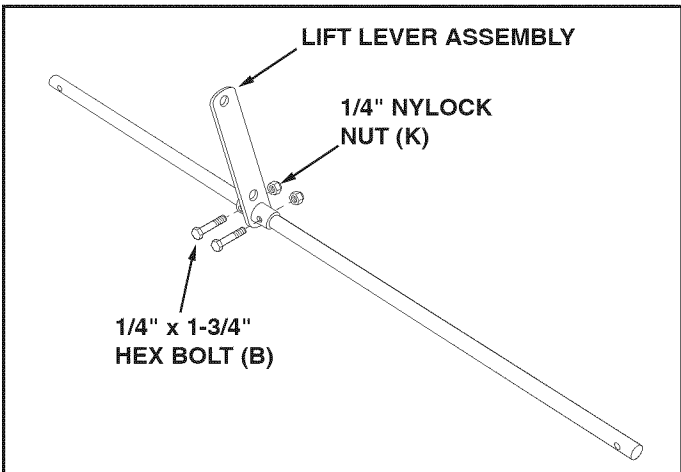

FIGURE 1
- Attach the lift lever assembly to the two holes in the middle of the shaft using two 1/4" x 1-3/4" hex bolts (B) and a 1/4" nylock nuts (K). **Tighten.** See figure 1.